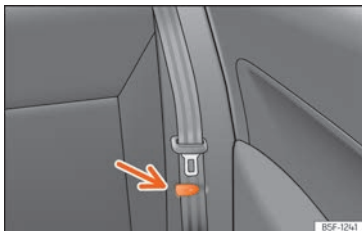

Fig. 120 Rear seat: clip to hold the seatbelt in place.
- Place the side seat belts in the trim clip » **Fig. 120**.